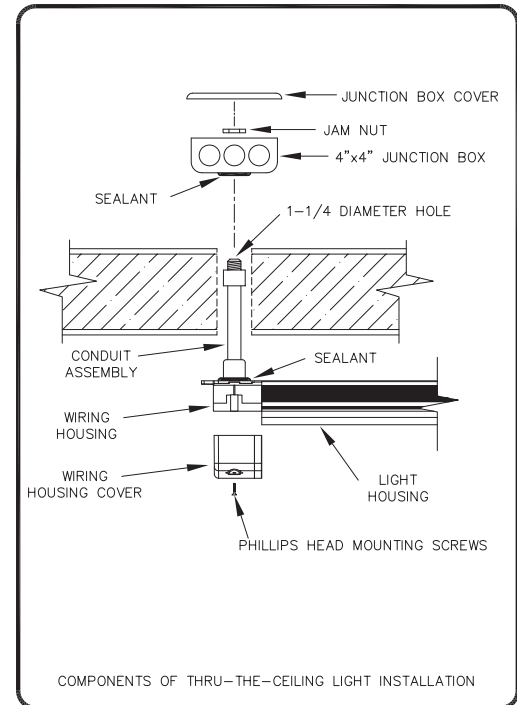

Fig. 2
After the exact location for the additional ceiling light(s) is determined, mark the precise location and drill a 1-1/4" diameter hole completely through the ceiling panel. The extra LED light fixture(s) is packed in the hardware bag along with a conduit assembly which consists of a short length of 1/2" rigid, non-metallic conduit with a threaded adapter and jamb nut affixed to each end. The conduit assembly is approximately 5-3/8" long (Fig. 2).
Remove the jamb nut from one end of the conduit assembly, thread it into the light fixture body, tighten it securely and lock it with the jamb nut. To seal the interior penetration of the walk-in ceiling, apply a generous amount of silicone sealer completely around the conduit at the point where it threads into the light fixture body. Insert the conduit assembly into the drilled hole in the ceiling and attach the vapor-proof light fixture body to the walk-in ceiling with two (2) #8 x 1/2" sheet metal screws which were packed with the light fixture (Fig. 2).